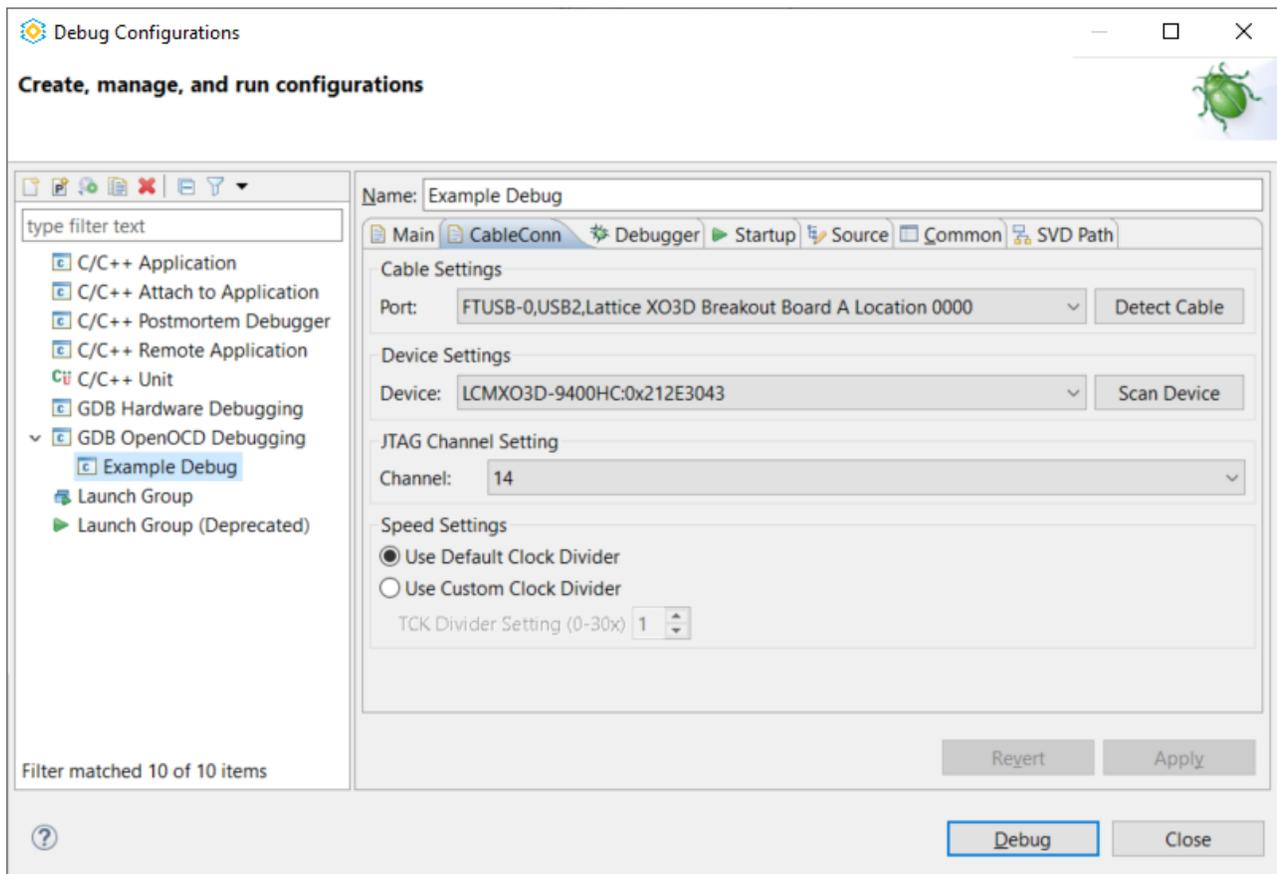

Figure 3.33 CableConn Tab of Debug Configurations
5. Select the **CableConn** tab (Figure 3.33). This tab enables you to select a specific device on a specific cable port.